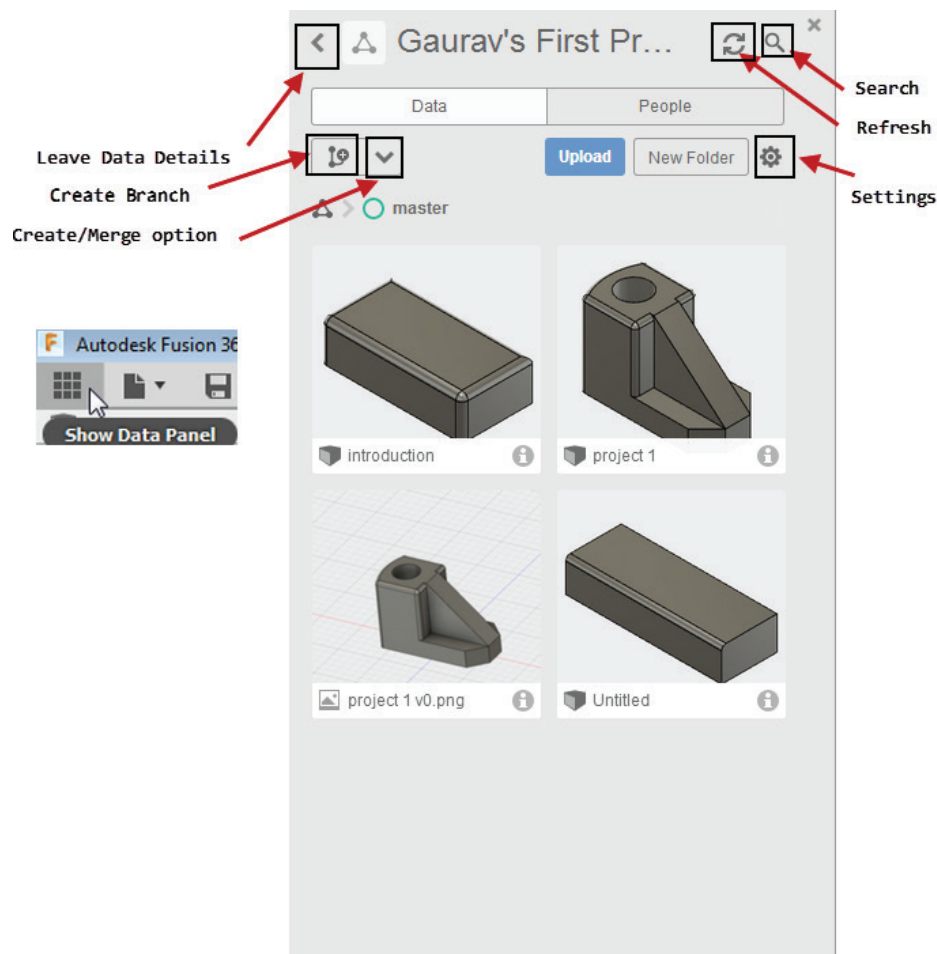

Figure-78. Data Panel
- To show or hide the **Data Panel**, click the **Show Data Panel** or **Hide Data Panel** button  at upper left corner of the Fusion 360 window; refer to Figure-78.
The tools in this drop-down are used to create various categories of the current project like, we have master as our main branch and we are creating mechanical tools as another branch. At any point in entire project, you are able to create the branches. This helps you to manage your projects in a different category; refer to Figure-78. The steps to use this tool are given next. (Note that Autodesk Fusion was in the process of closing preview of this tool in version 2.0.4099 so you might not be able to utilize this tool any further.)